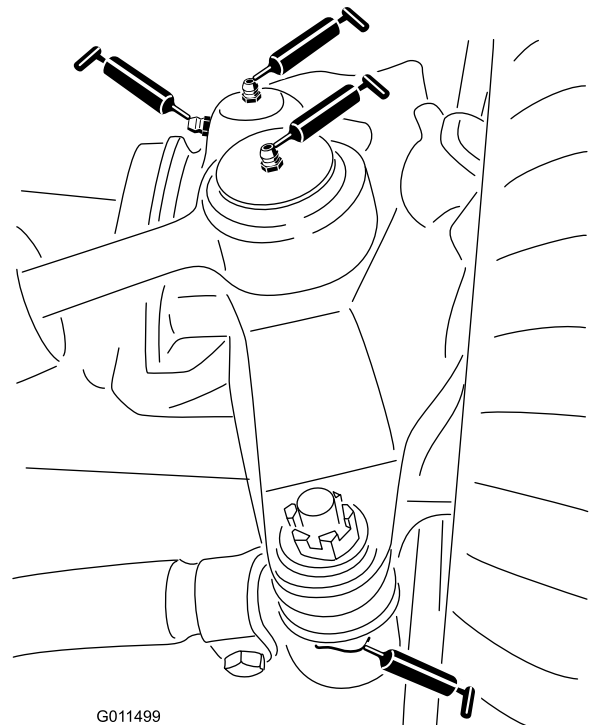

Figure 39
- Steering cylinder ball joints (2) (Figure 39)
- Tie rod ball joints (2) (Figure 39)
- King pin bushings (2) (Figure 39).